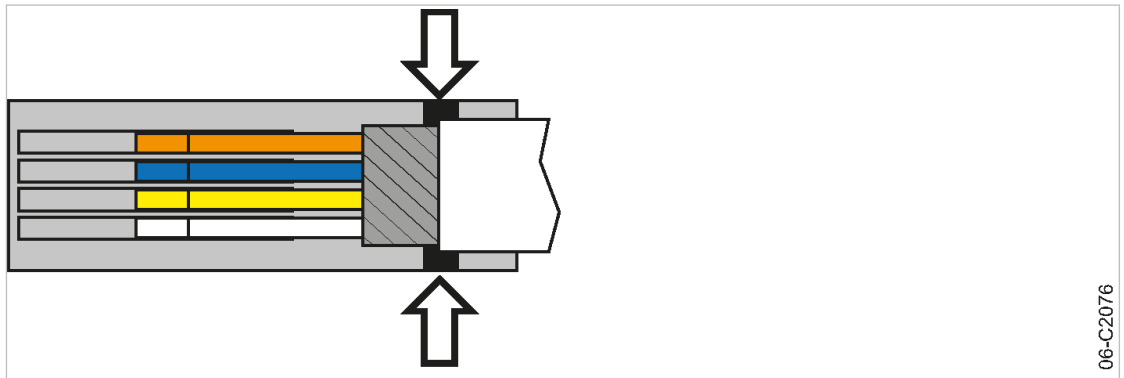

Fig. 6 Positioning the network cable
4. Position the network cable as shown (arrows, see Fig. 6).